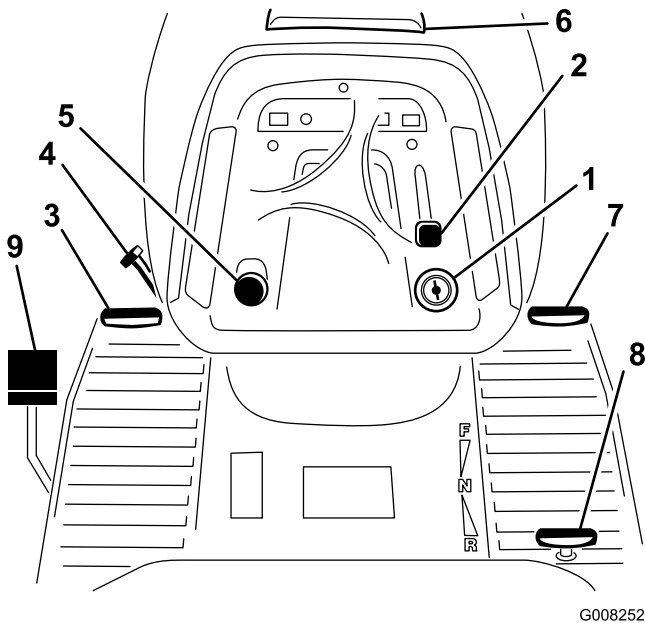

Figure 3
Become familiar with the controls (Figure 3) before you start the engine and operate the machine.
1. Push the brake pedal (Figure 3) down and hold it.
2. Turn the parking brake lever (Figure 3) counterclockwise and gradually take your foot off the brake pedal.
1. Push down on the brake pedal (Figure 3).